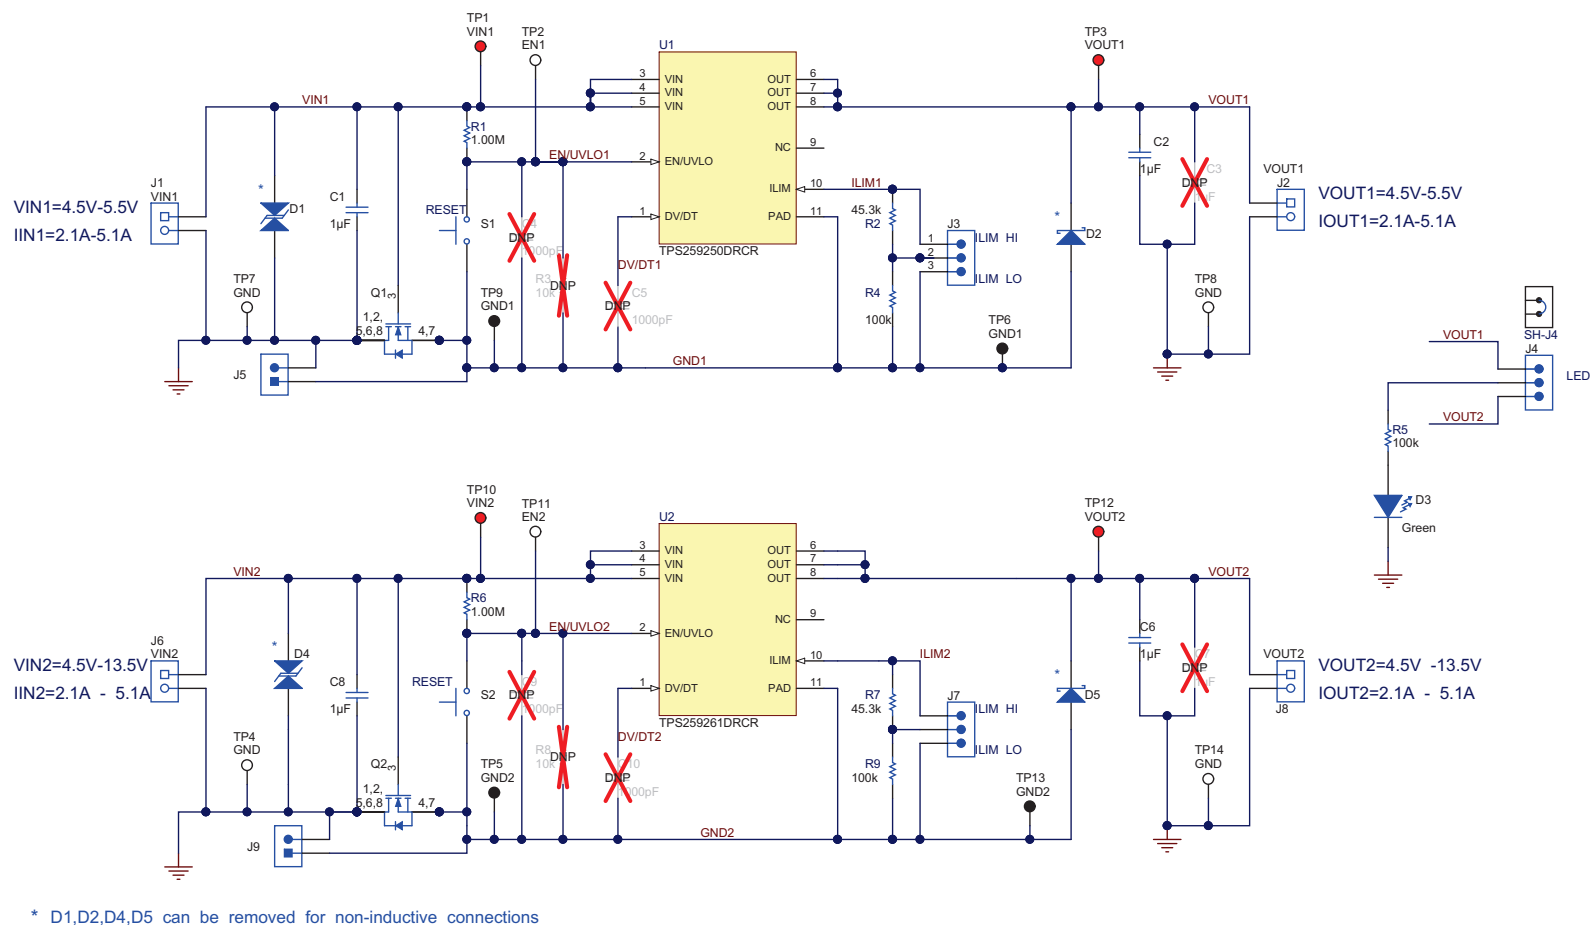
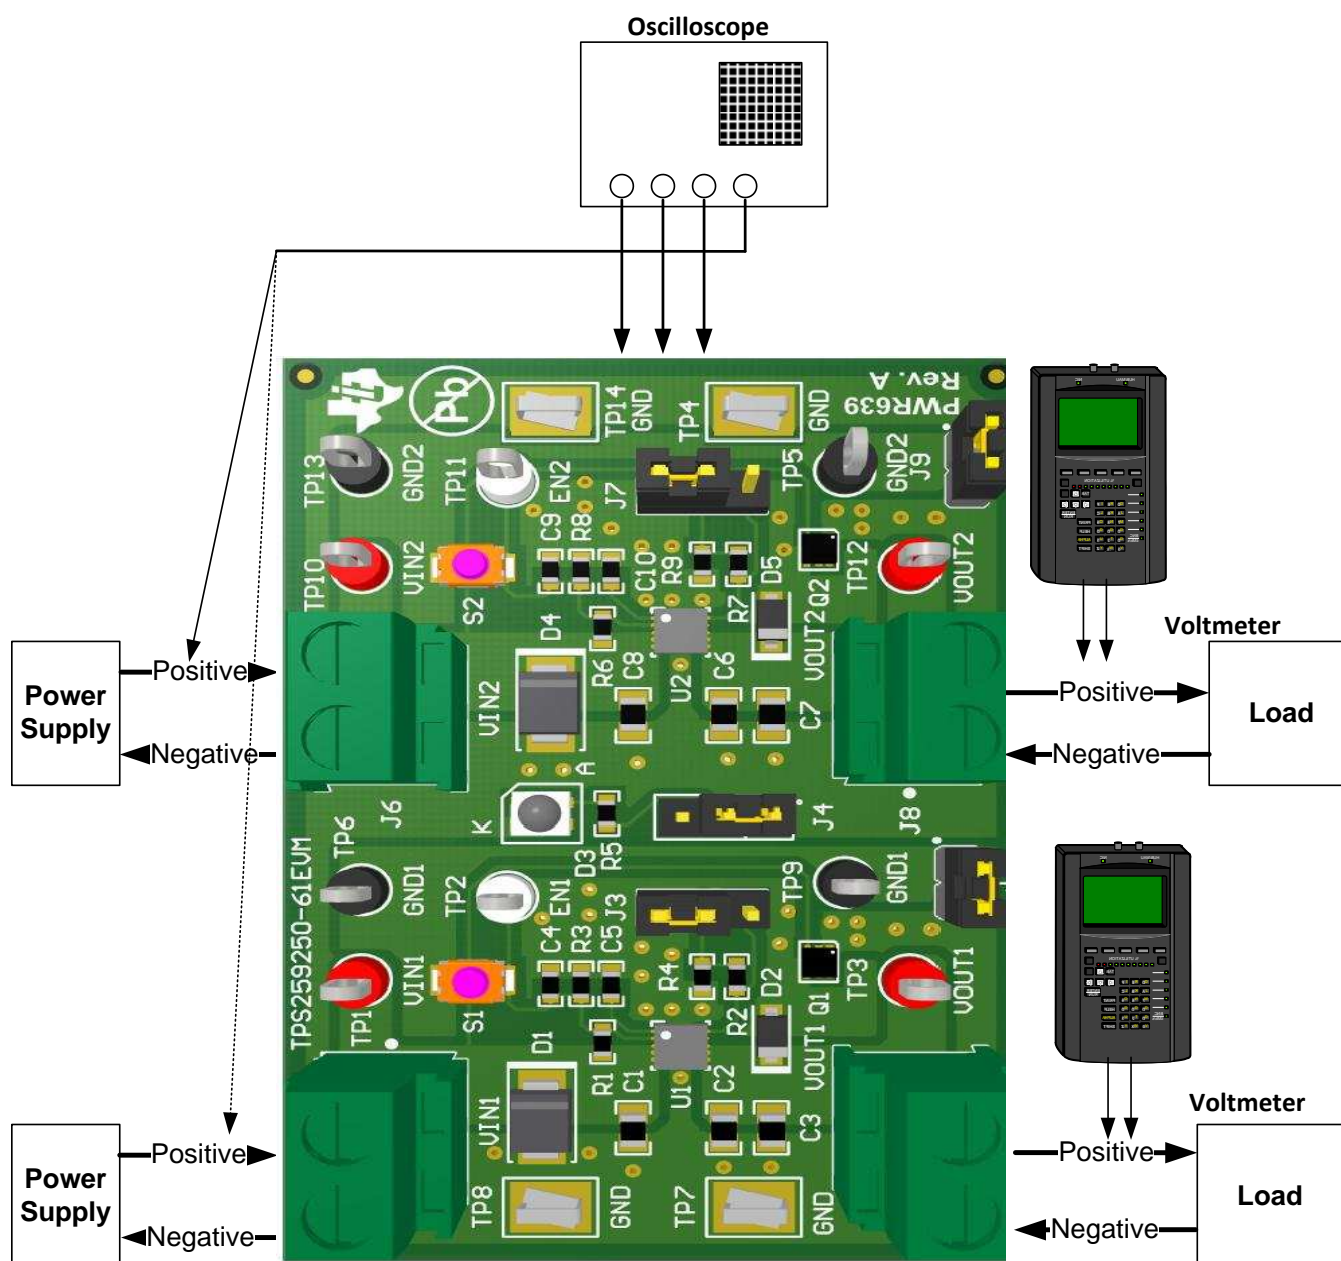

Figure 1. TPS259250-61EVM Schematic
Figure 2. EVM Setup With Test Equipment
The TPS259250-61EVM enables full evaluation of the TPS259250/61 devices. The EVM supports two versions (latched and auto- retry) of the devices on two channels (CH1 and CH2, respectively). Input power is applied at J1 (CH1) and J6 (CH2) while J2 (CH1) and J8 (CH2) provide the output connection to the load. Refer to the schematic in Figure 1 and the EVM test setup in Figure 2.
Figure 1 illustrates the TPS259250-61EVM schematic.
Figure 2 shows a typical test setup for the TPS259250-61EVM. Connect J1/J6 to the power supply and J2/J8 to the load.
- Turn off the power supply. Hook up CH1 and CH2 of the TPS259250-61EVM assembly as shown in Figure 1.